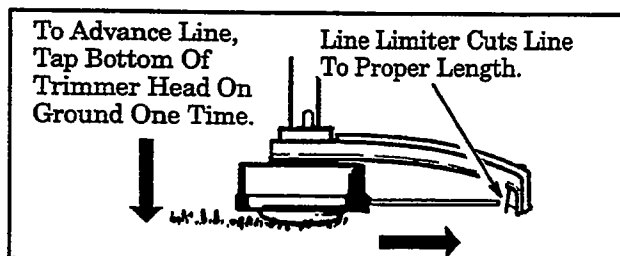

Figure 9
- Always keep the shield in place when the tool is being operated. Figure 9 .
3. Tap bottom of trimmer head lightly on ground one time. Figure 9 . Approximately 2" (5 cm) of line will be advanced with each tap.